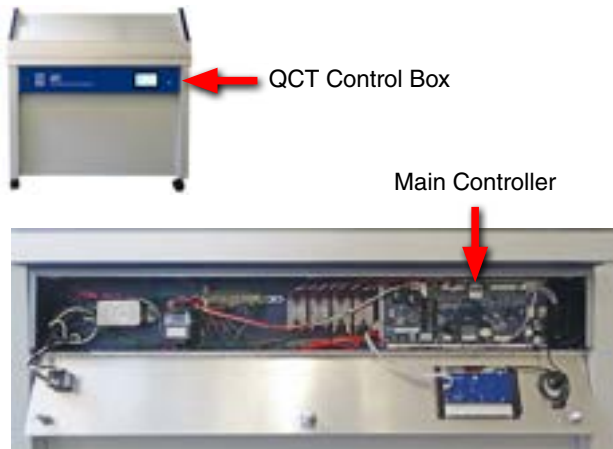

Figure 8.1a: Control box opened showing main controller circuit board.
- The main controller circuit board, along with other QCT electronic components, is located in the control box mounted on the QCT base, underneath the chamber (Figure 8.1a).